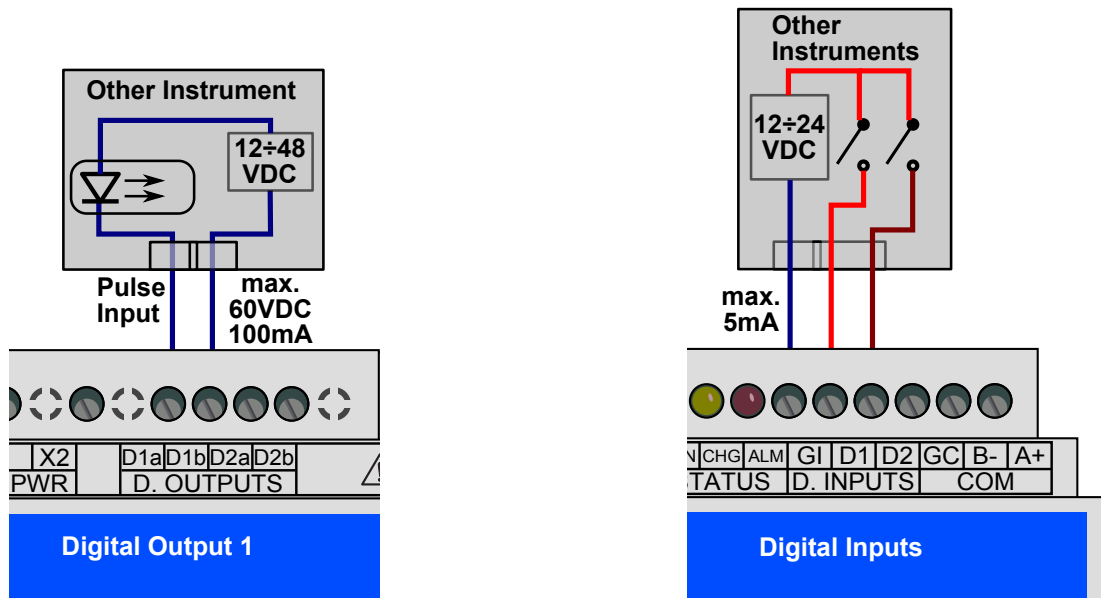

Figure 7: An example of wiring connection for inputs and outputs in ARTIQ 144 .
**Digital Inputs** DI1 and DI2, sensitive to voltage, are using three terminals in *COM2/DI* block — *G* is common terminal, *B/1* is first and *A/2* is second digital input. Voltage lower than 3 V applied between *G* and digital input *B/1* or *A/2* is evaluated as inactive state, voltage greater than 10 V is evaluated as active state. On fig. 7 right there is a sample schema for connection of two external switches in series with voltage source of 24 VDC.
**Digital Outputs** DO1 and DO2 are connected through terminals *O+* and *O-*. There must be an external voltage source in series (24 VDC is recommended). In case of solid state based DO outputs an external voltage supply polarity must comply with terminal poles (see fig. 7).